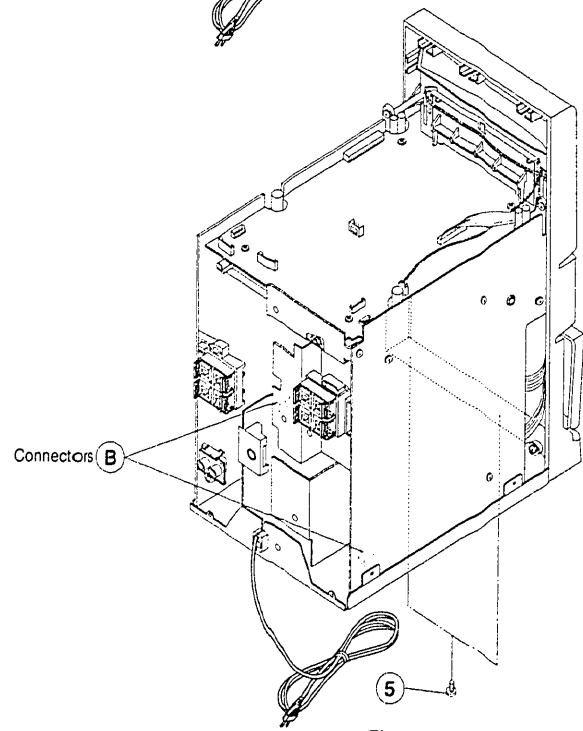

Fig. 4
- (1) Disconnect 4 connectors ④ from the CD P.W.B.
- (2) Remove 4 screws ④ from the CD Mecha Deck and then remove it from the Main Chassis .
4. **Removal of Bottom Chassis (Fig. 4)**